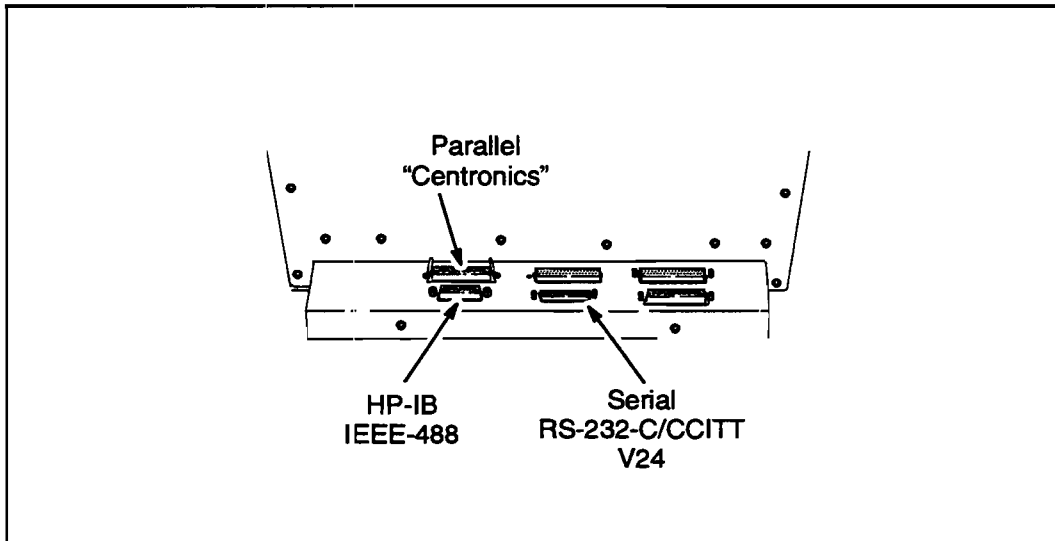

Figure 3-44. Computer Interface Connections
5. Connect the interface cable to the appropriate connector on the front of the VRC as shown in Figure 3-44.